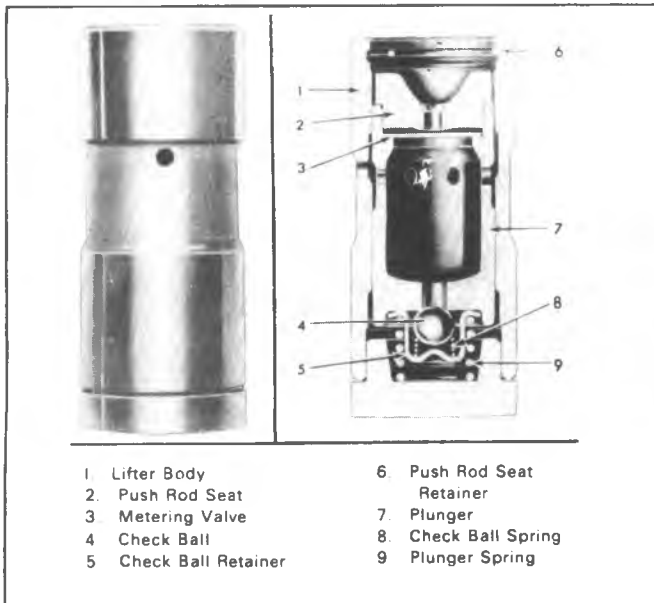

Fig. 6A4-14-Hydraulic Valve Lifter
4. Remove the ball check valve and spring by prying the ball retainer loose from the plunger with the blade of a small screw driver (fig. 6A4-15).